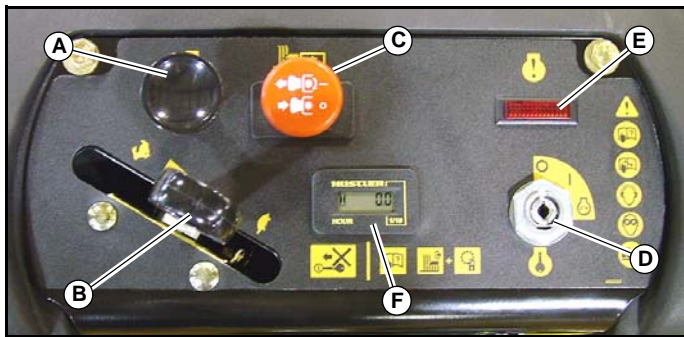

Figure 3-1
- A. **Choke control (Figure 3-1)** — a cable is linked to manually operate the engine choke. When the lever is in the down position, the choke is in the off (run) position. When the lever is pulled up, the choke is in the on (start) position. Do not operate the machine in the on (start) position.
- B. **Throttle control (Figure 3-1)** — a cable is linked to engine throttle for controlling engine speed. Move lever forward to increase engine rpm, move lever rearward to decrease engine rpm.
- C. **Deck clutch switch (Figure 3-1)** — this switch engages the deck. Pull the switch up to engage and push switch down to disengage the clutch.
- D. **Ignition switch (Figure 3-1)** — a three position switch:
- E. **Oil pressure light (Figure 3-1)** — this light comes on when the ignition switch is placed in the RUN position and stays lit until the engine is running and a safe oil pressure is developed. If light comes on during operation, shut engine off immediately and locate and correct the problem.
- F. **Electronic hour meter (Figure 3-1)** — registers 1/10 hour increments up to 9,999.9 total hours. Connected to the ignition switch, the meter records the accumulative time while the ignition key is switched to the RUN position.